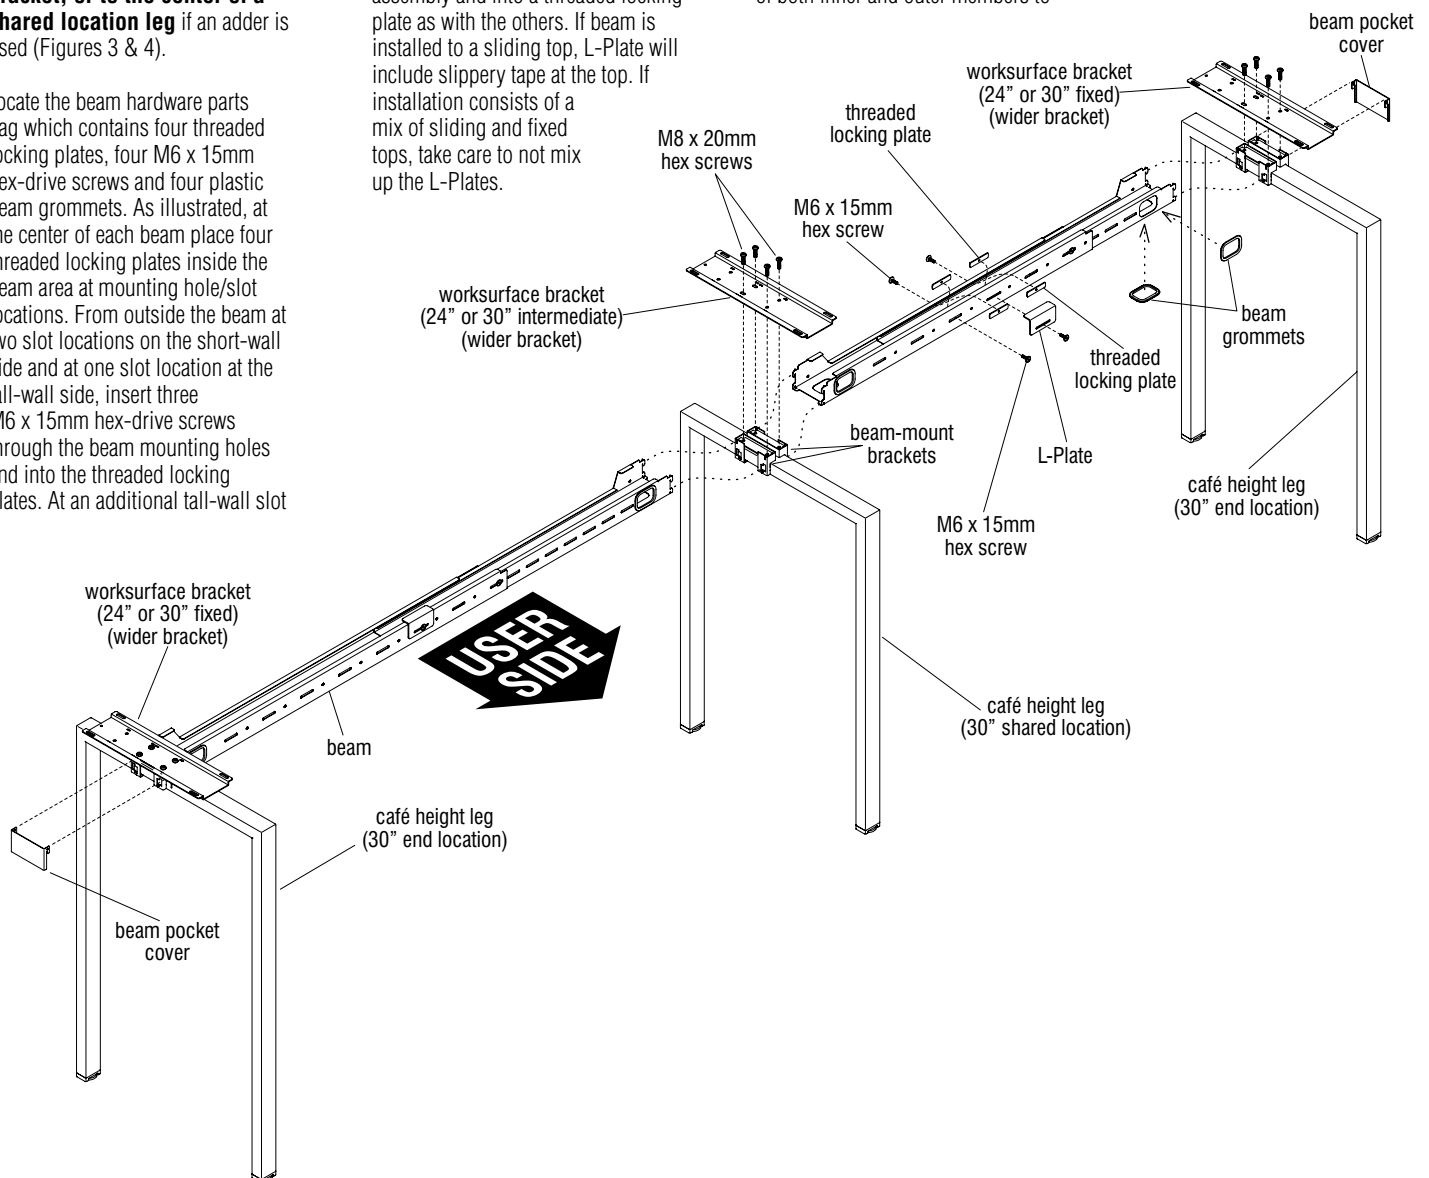

Figure 4 - Single-Sided Fixed Café Height Benching, Multiple Worksurface (Adder) Legs & Beams
**Note:** If installation requires shared location legs with additional beams for multiple worksurfaces (as most do), see Figure 4 (next page) and follow step 3 below. All beams must be installed to legs before attaching worksurface brackets.
3. Shared location café height legs are used in multiple top, "adder" runs of worksurfaces (Figure 4). Attach beams to shared leg locations per the space-planning layout and as described in step 2 (Figure 4).